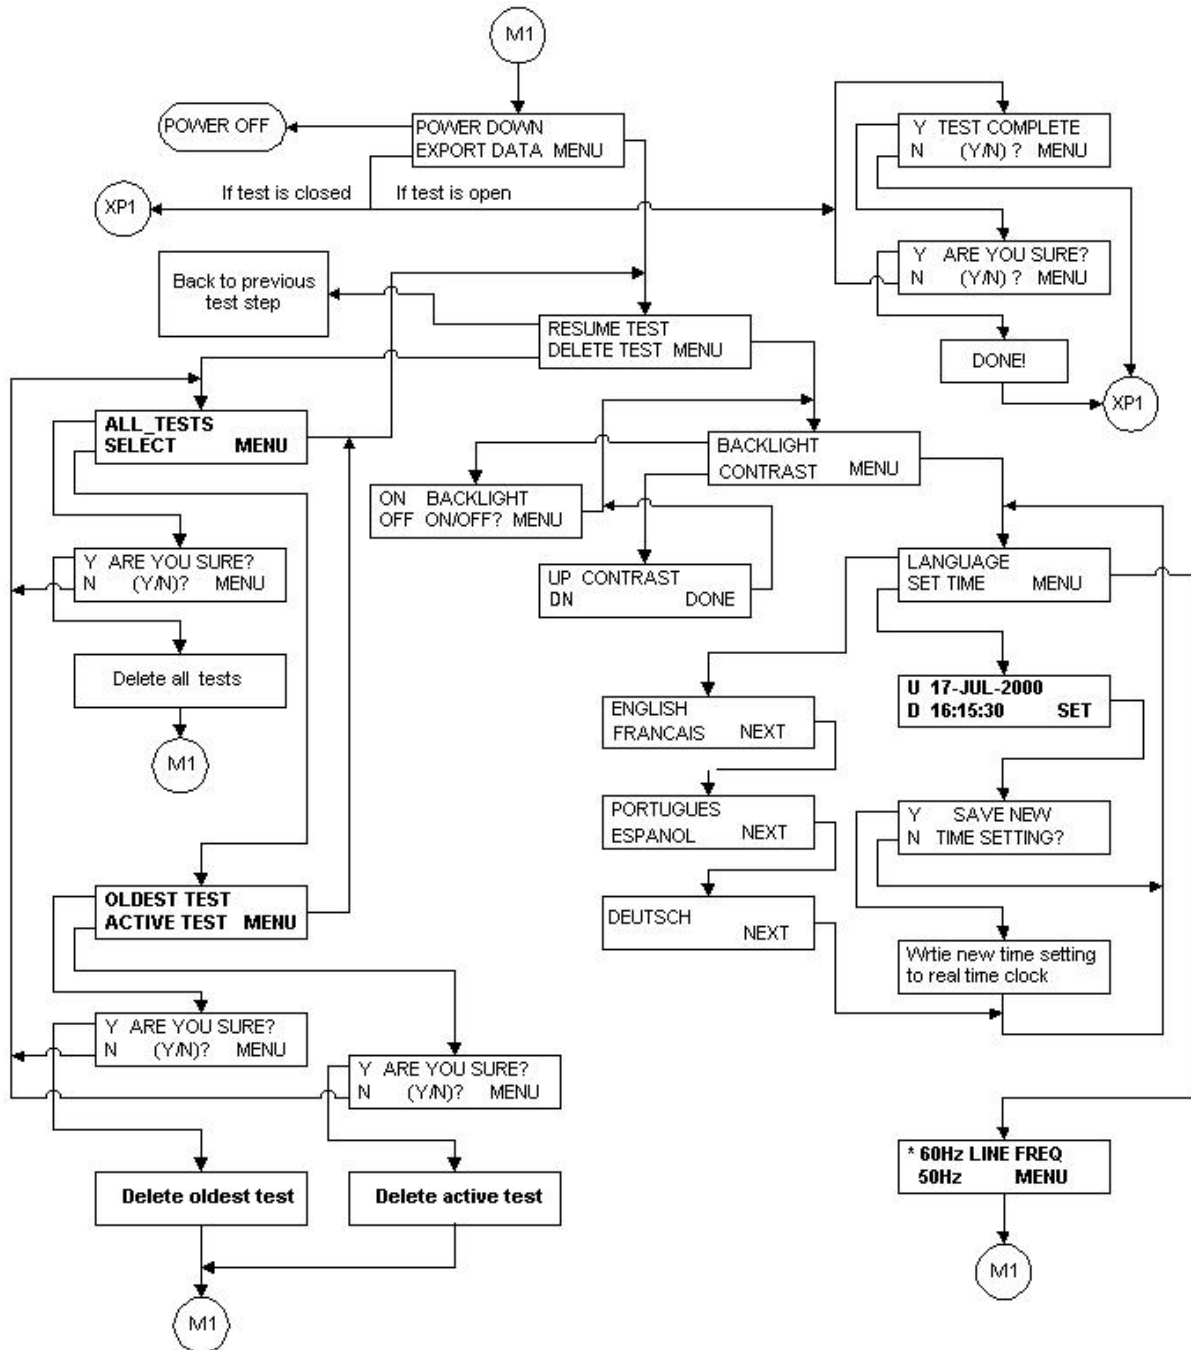
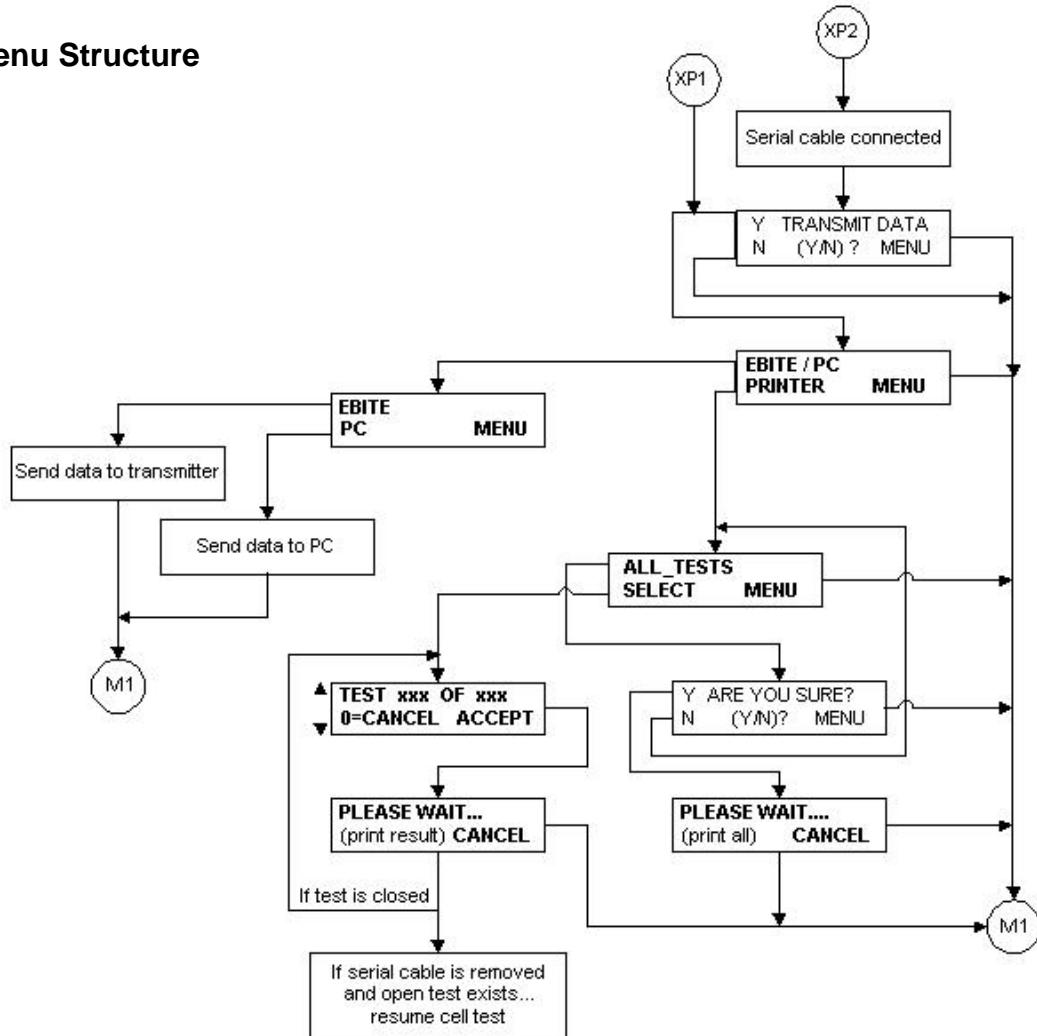

Figure 3-6: Flowchart for Receiver menus (cont'd)
Figure 3-7: Flowchart for Receiver menus (cont'd)
The ENTER key is used to access **receiver** menus, which are shown in Figure 3-6 through Figure 3-7.
1. Suppose that the following Menu is displayed on the screen as shown in Figure 3-6.